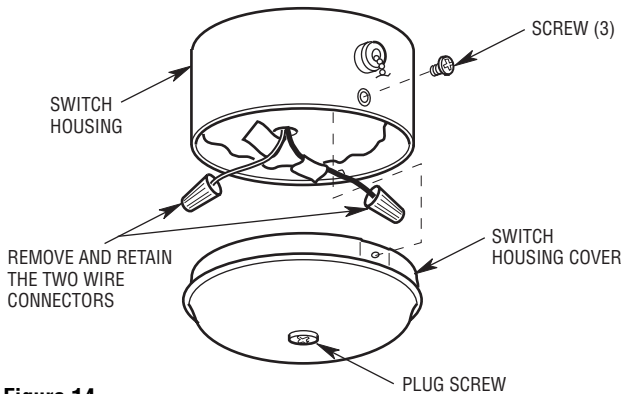

Figure 14
- 1. Remove and retain the three screws securing the switch housing cover to the switch housing. (Figure 14) Remove and retain the two wire connectors. Remove plug screw.